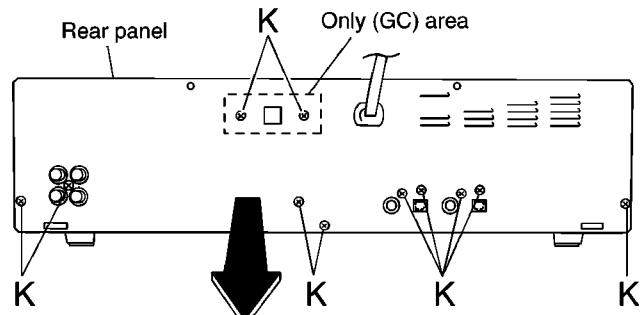

Fig.11
■ Removing the rear panel (see Fig.11,12)
1. Remove the nine screws [(GC) area : eleven screws] **K** attaching the rear panel.